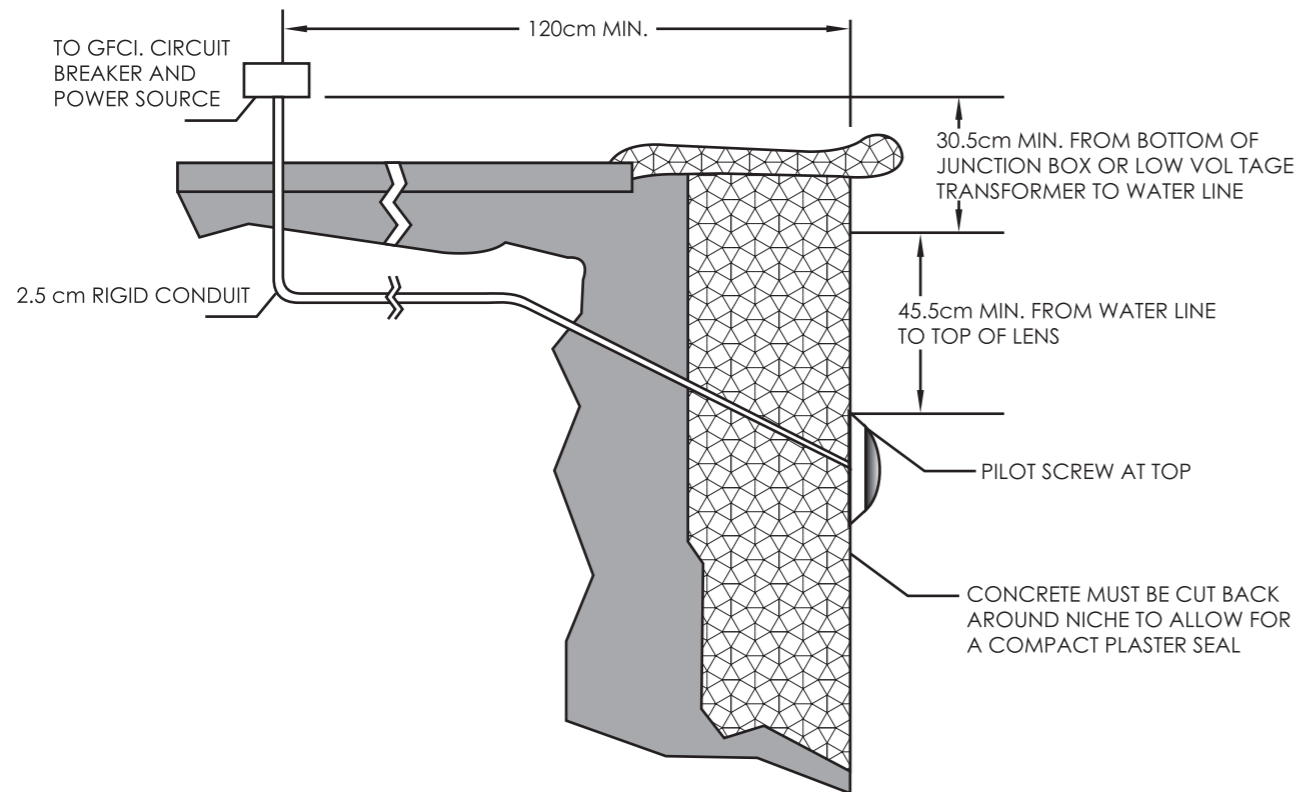

Figure 1.
A) Preparatory steps which must be completed by the electrician before light is installed, see Figure 1.
- b) The junction box, or the low voltage transformer for 12 volt models, is located at least 30.5cm above water level and at least 120cm from the edge of the pool, see Figure 1.
- d) The mounting bracket must be properly installed so that the top edge of the Underwater Light's lens is at least 45.5cm below the surface of the water in the pool. Top of lens corresponds to center of center of Plastic Mounting Hub. see Figure 1.